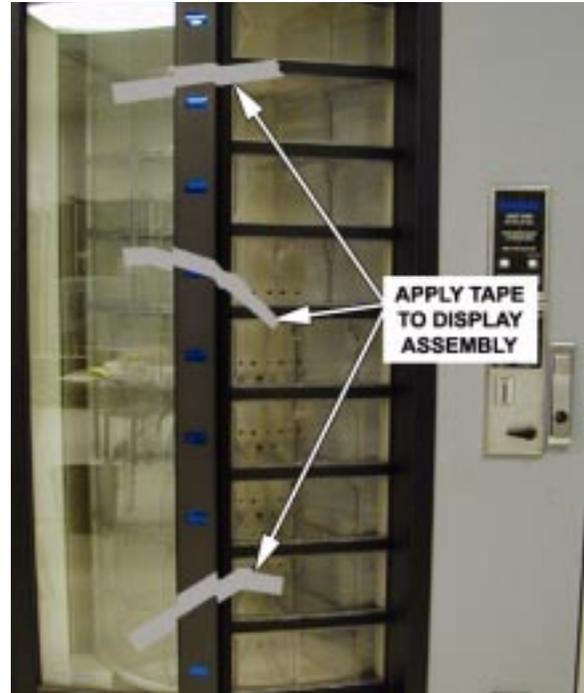

Figure 42
1. Apply several pieces of tape across the front of the price display assembly to prevent its falling on the floor (figure 42).